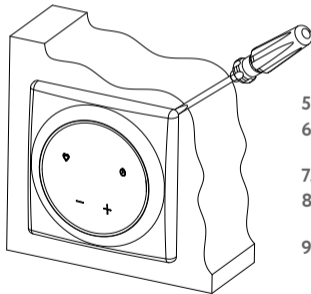

Fig. 8
2. Insert into the corner between the OneKeyElectro frame and the wall (Fig. 8).